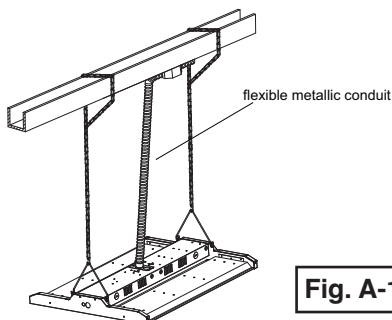

Fig. A-1
3. Connect the V-hooks to the chains with the hooks on each chain. Adjust the height of the installation by locking the chain hook on the other side of the chain. (**Figure A-1**)
4. Use the flexible metallic conduit to run the line, neutral and ground wires for powering the fixture. (**Figure A-1**)